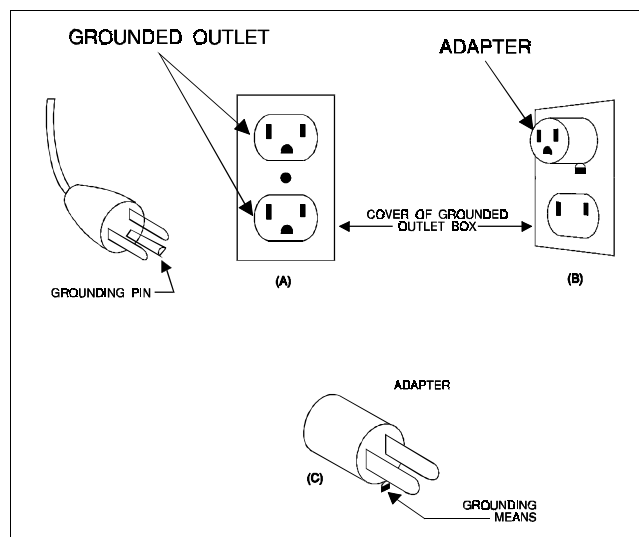

Figure 1 - Grounding Methods
13. This unit is for use on a 121 volt circuit, and has a grounding plug that looks like the plug shown in Figure 1. A temporary adapter, that looks like the adapter shown in sketches B and C, may be used to connect this plug to a two pole receptacle as shown in sketch B if a properly grounded outlet is not available. The temporary adapter should be used only until a properly grounded outlet can be installed by a qualified electrician.